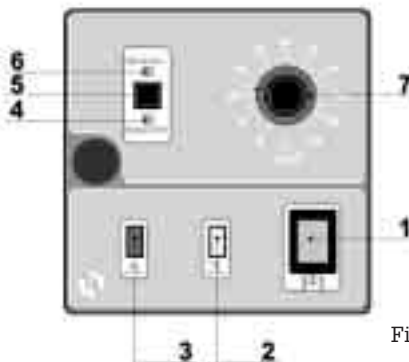

Fig. 17
8.1.4 - PB-F PUMP CONTROL DESCRIPTION (Fig. 17)
- **ON/OFF SWITCH (1)**